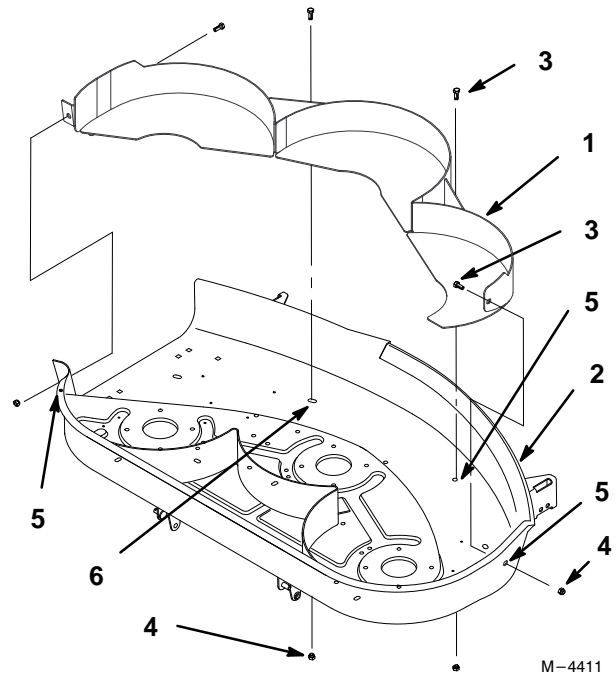

Figure 2
1. Place baffle in the cutting chamber (Fig. 2).
6. Mark the location of the 3 remaining baffle mounting holes (Fig. 2).